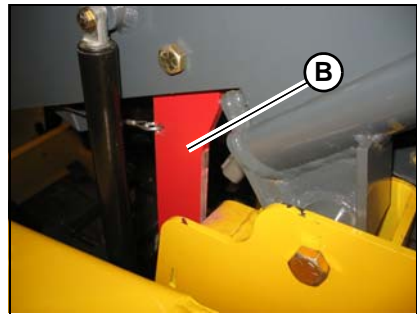

Figure 88 – ROPS/FOPS Lock Mechanism
3. Tilt the ROPS/FOPS up and back, moving the control handles out of the way. Tilt the ROPS/FOPS back slowly, until locking mechanism (B, Figure 88) locks the ROPS/FOPS in the raised position.